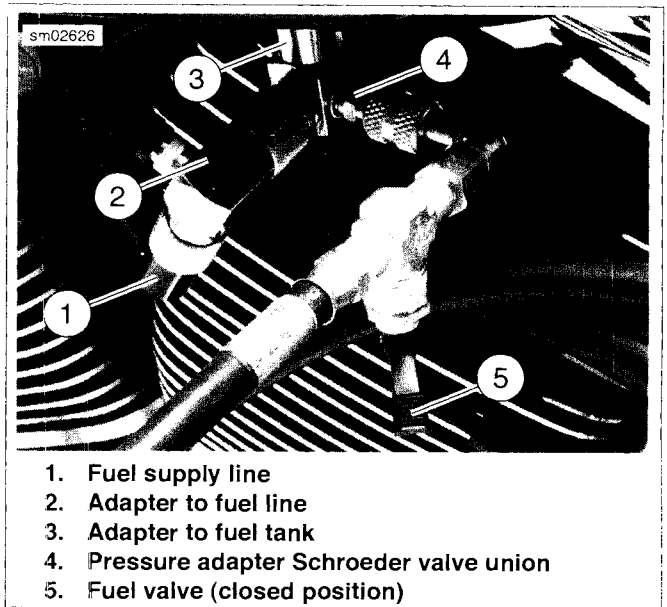

Figure 4-54. Fuel Line
- b. See Figure 4-54. Pull up on chrome sleeve of quick-connect fitting and insert neck of FUEL PRESSURE GAUGE ADAPTER (Part No. HD-44061) into fuel supply line.